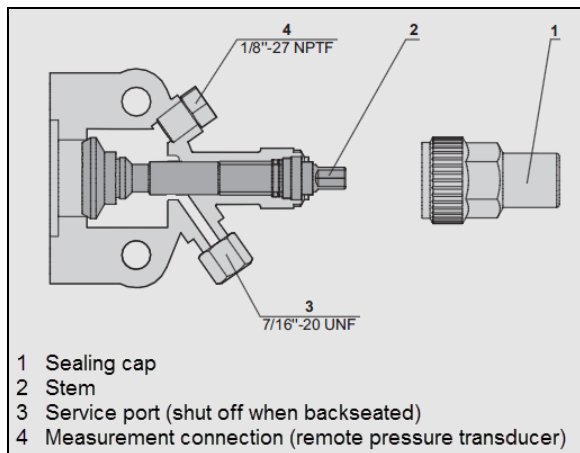

FIGURE 21: COMPRESSOR SHUT-OFF VALVE IN FRONT SEATED POSITION
9. Close (frontseat) the suction shut-off valve on the compressor (FIGURE 21).